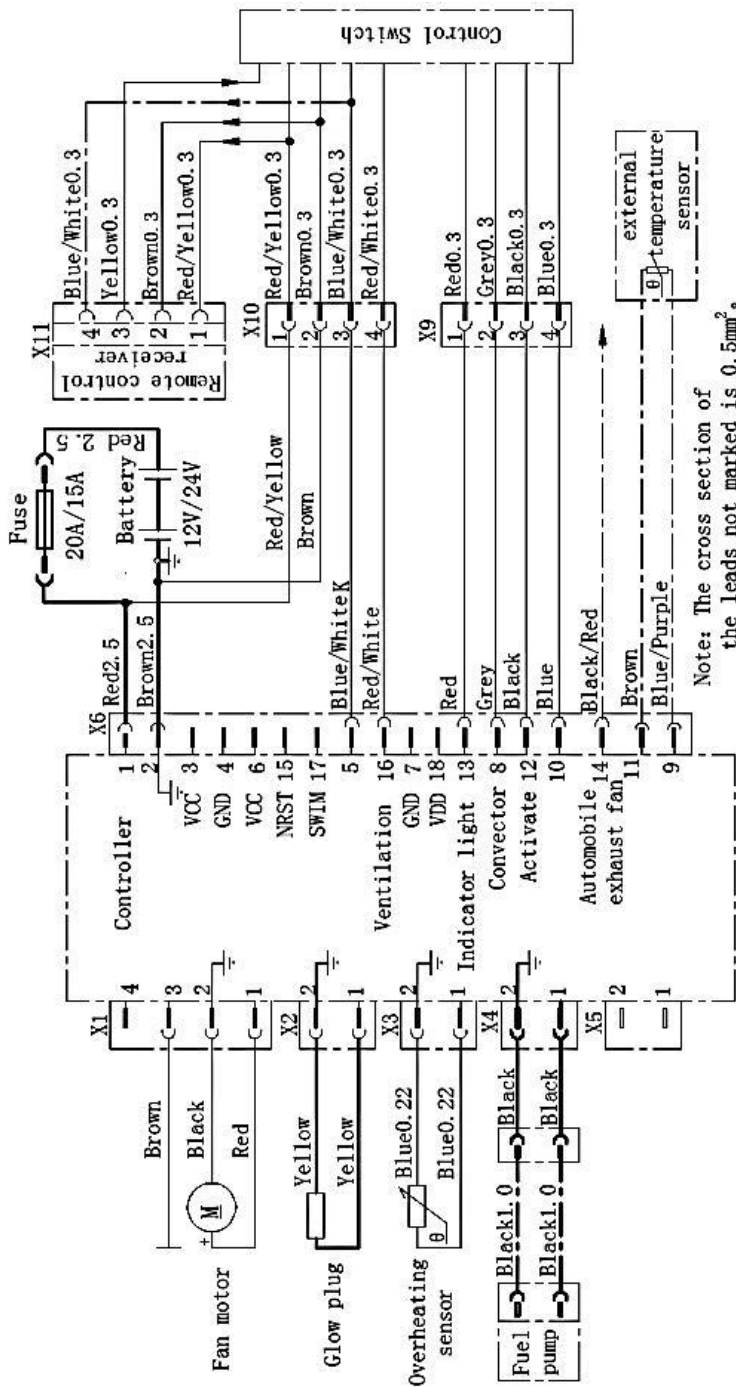

Fig. 22
4.5.1 The wiring diagram for the heater is shown in Fig. 22. The wires of the main heater for connection to outside circuits have been made into wire bundles. They can be laid according to the positions of various components and shall be fixed in some proper locations. The distance between two fixing points shall not exceed 30cm. Attention: Any exposed wire bundle out of the vehicle body or out of the wiring groove must be protected by corrugated pipe.